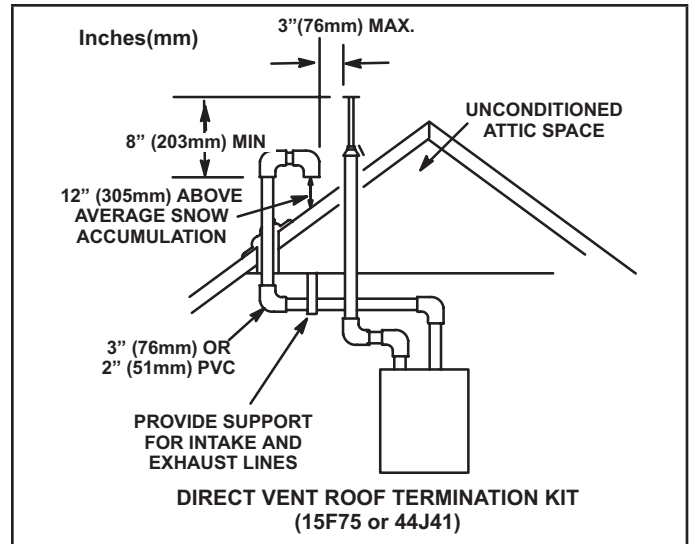

FIGURE 34
Intake and exhaust pipes may be routed either horizontally through an outside wall or vertically through the roof. In attic or closet installations, vertical termination through the roof is preferred. FIGURE 34 through FIGURE 41 show typical terminations.
- 3 - On roof terminations, the intake piping should terminate straight down using two 90° elbows (See FIGURE 34).